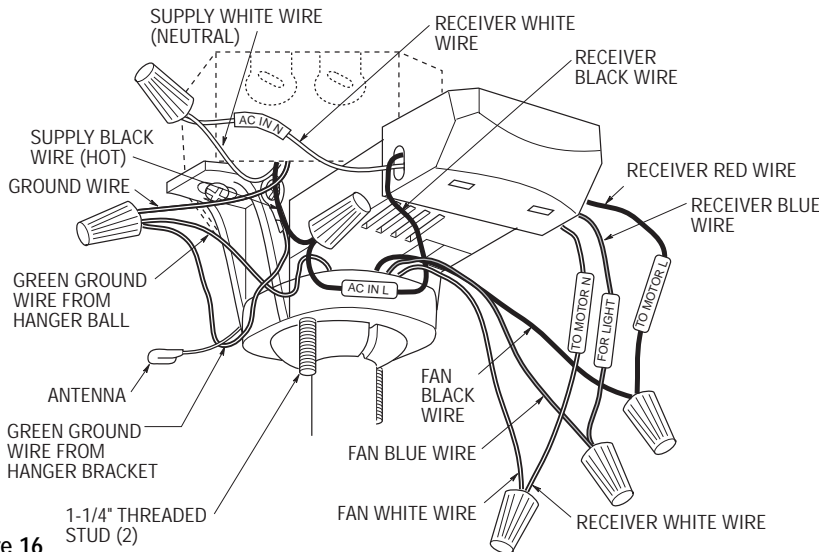

Figure 16
1. Position the supply wires to the left side of the outlet box (Figure 16); position the fan wires to the right side. Partially insert the remote control receiver (flat side up) until one end rests on the hanger ball as shown in Figure 16.
2. Refer to Figure 16 and 17 and connect the receiver wires to the supply wires and the fan motor wires as follows:
- 4. Screw the two 1-1/4" threaded studs (supplied) into the tapped holes in the hanger bracket (Figure 16).